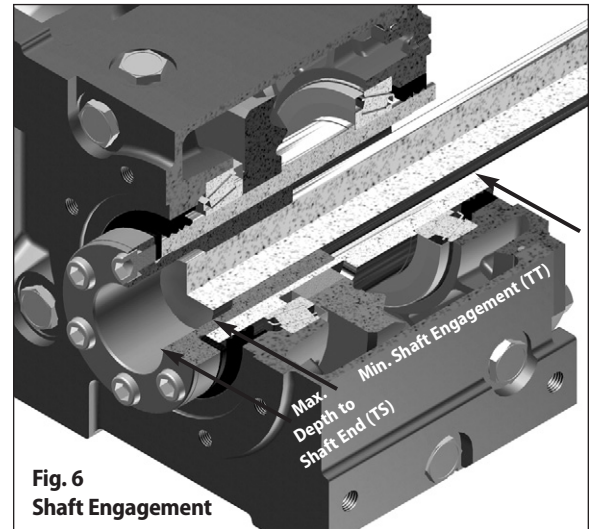
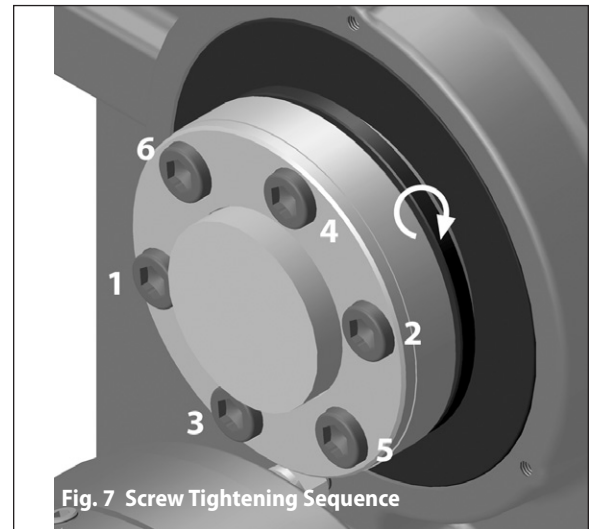

Fig. 6 Shaft Engagement
Fig. 7 Screw Tightening Sequence
Step 8 – Position unit with the bushing flange located on the outboard side of the unit. Align the bushing with the driven shaft. Slide the unit onto the driven shaft as close to the driven shaft support bearing as possible. Ideally, the driven shaft should extend beyond the bushing flange face (see Fig. 7). Refer to Fig. 6 and Table 2 below for minimum shaft to bushing engagement. For maximum depth to the end of the shaft, refer to Fig. 6 and Table 3 below.
Step 9 – With a torque wrench, tighten the cap screws in 20% increments to engage the bushing system. Use the appropriate tightening pattern ("star-pattern" see Fig. 7) to assure complete bushing engagement. Tighten each cap screw to the torque values shown in Table 4.